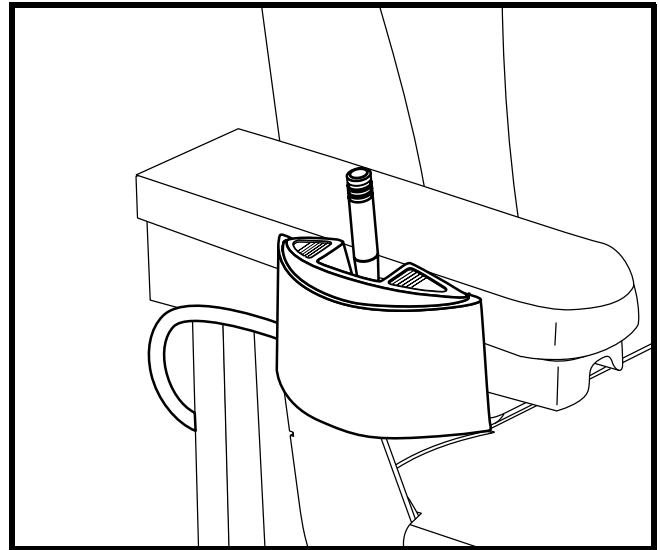

Figure 24. Power Seat Toggle Switch (Shown on Armrest)
1. Press forward on the toggle switch to raise the seat. See figure 24.